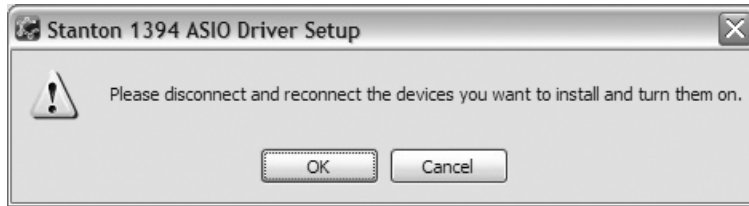

Figure 4.7
- Files will begin to copy or if you are installing a new driver the old drivers will be uninstalled before new files are copied. When prompted to connect your devices (Figure 4.7), turn ON all SCS.1 devices to be used and then connect the FireWire cable from the device(s) to your computer and click **OK**.